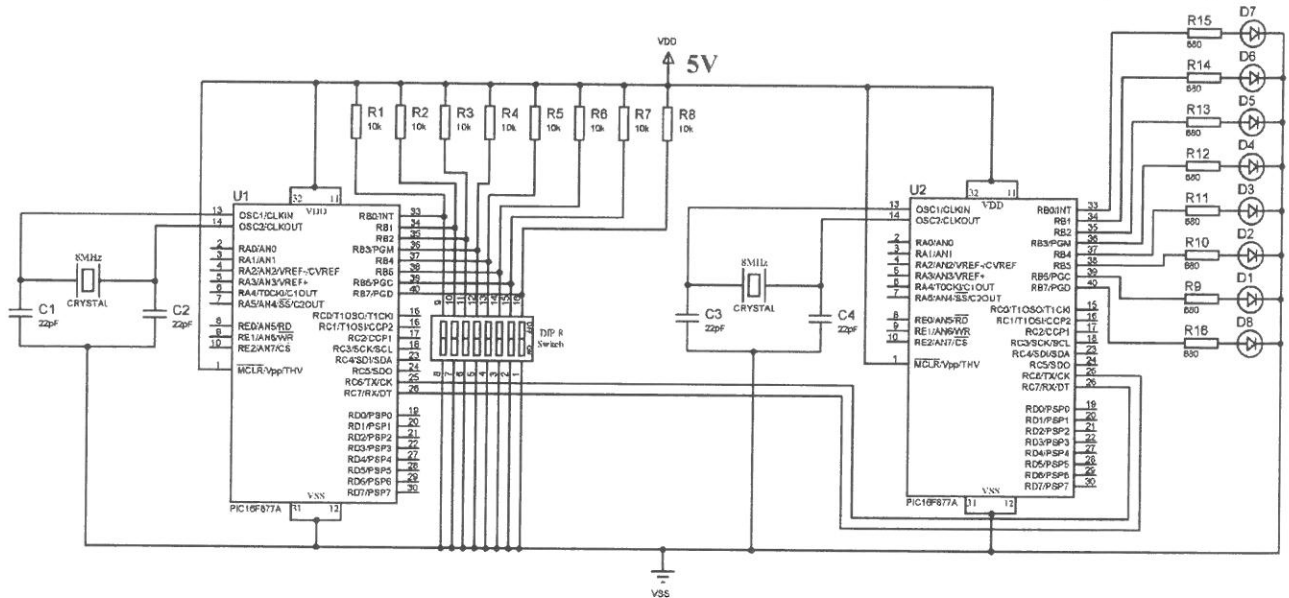

Figure 4(a)
- (a) Figure 4(a) shows the PIC to PIC communication via UART. Describe the UART communication between these 2 PIC microcontrollers. State on the typical baud rate used for this communication. Assume the communication protocol used is 8N1. The figure below shows communication between two PIC16F877A microcontrollers.